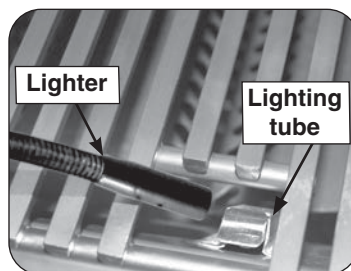
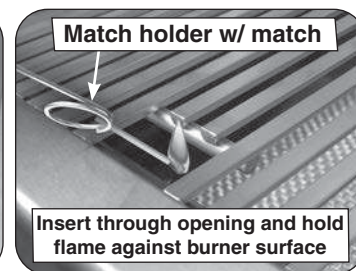

Fig. 29-2 Manual lighting via lighting tube
Fig. 29-3 Manual lighting via match holder
2. Insert either a burning long-barrel butane lighter or a burning long-stem match through the cooking grid opening to the top of the lighting tube. (Fig. 29-2). For backburners or infrared burners, hold the flame against the surface of the backburner/infrared burner. For charcoal burners, hold the flame near the burner. Grills equipped with an infrared burner include a wire extension match holder (attached to drip tray) to assist with manual lighting (Fig. 29-3).
4. If the burner does not light within five (5) seconds of turning the control knob, **immediately depress the knob and turn the valve to OFF**. **WAIT FIVE (5) MINUTES** before repeating steps 2 through 4 of the MANUAL LIGHTING instructions.